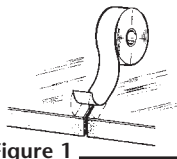

Figure 1
1. Center THERMAX™ white foil tape over dry, clean edge joint and apply tape (Figure 1). When installing THERMAX™ Sheathing or THERMAX™ Metal Building Board, use aluminum foil tape.